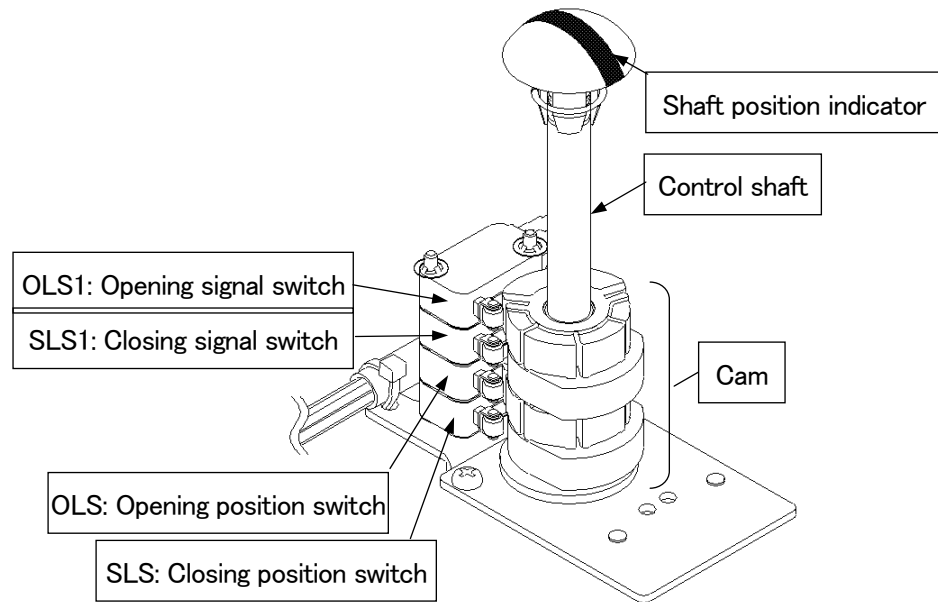

Fig. 24
13.1 The standard types of EX Series actuators are provided with two signal limit switches (OLS1 and SLS2) and two position limit switches (OLS and SLS) as shown in Fig.24.